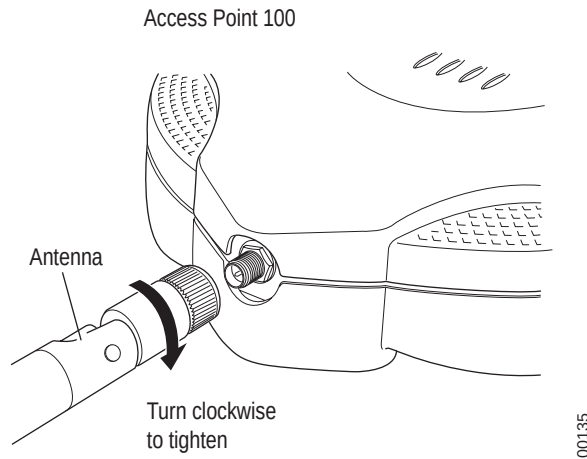

Figure 5: Attaching an Antenna to the AP100
Attach the antennas to the connectors on the AP100 (see Figure 5). Rotate the knurled ring at the base of the antenna clockwise to attach the antenna, as shown in the following figure. The ring should be finger-tight.
2. For each antenna, loosen the knurled ring at the base of the antenna (see Figure 5), point the antenna straight up, then retighten the ring.
6. For external antennas, loosen the knurled ring at the base of each antenna (see Figure 5), point the antenna straight up, then retighten the ring.
6. For each antenna, loosen the knurled ring at the base of the antenna (see Figure 5), point the antenna straight down, then retighten the ring.
9. For each antenna, loosen the knurled ring at the base of the antenna (see Figure 5), point the antenna straight up, then retighten the ring.